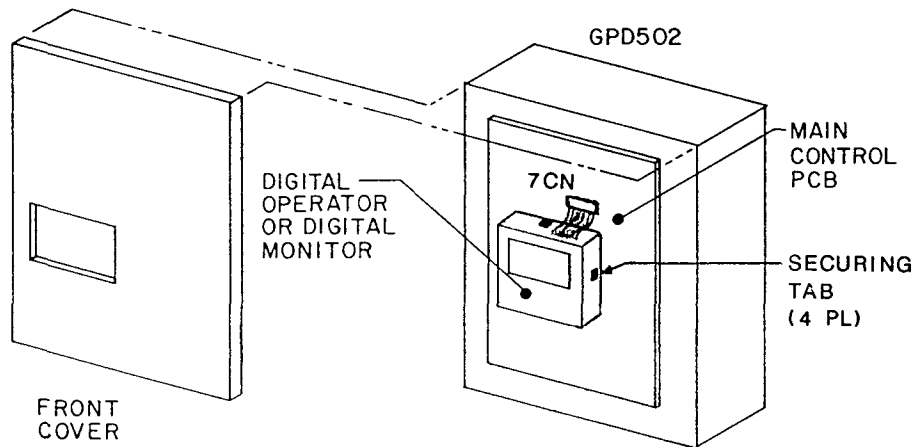

Figure 2. Installation of Digital Monitor in GPD 502
4. See Figure 2. Disconnect the Digital Operator's ribbon cable from 7CN on the Main Control PCB.